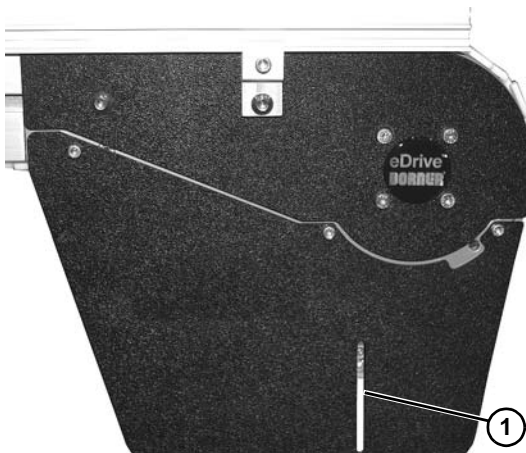

Figure 110
After shortening chain, ensure there is visible slack in chain (while running) at catenary drive tails. If chain is not visible in cover slot (Figure 110, item 1) inspect from end.